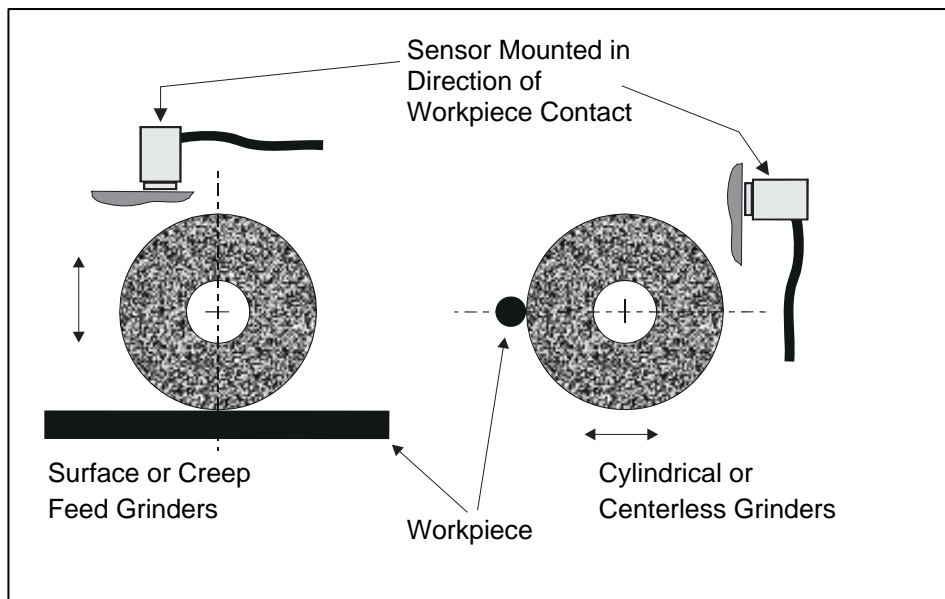
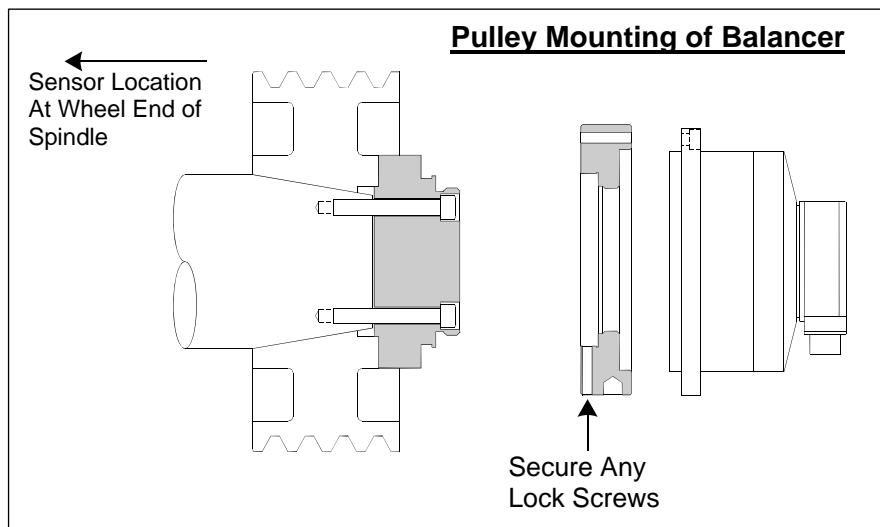

Figure 7a
Figure 7b
1. The first general principle is to **locate the Sensor in the same direction as the centerline between the grinding wheel and the workpiece**. The best place to start is a flat machined surface on the spindle housing over the bearing closest to the wheel, and perpendicular to the spindle's centerline (*figure 7a*). A vertical mounting surface is preferable on most cylindrical grinding machines because the sensor is in line with the grinding wheel and the workpiece. For this same reason, on surface grinders and creep feed grinders, a horizontal mounting surface is generally best. Although the balancer itself may be mounted either on the wheel or pulley end of the machine, the Sensor should always be aligned at the wheel end of the machine (*figure 7b*).